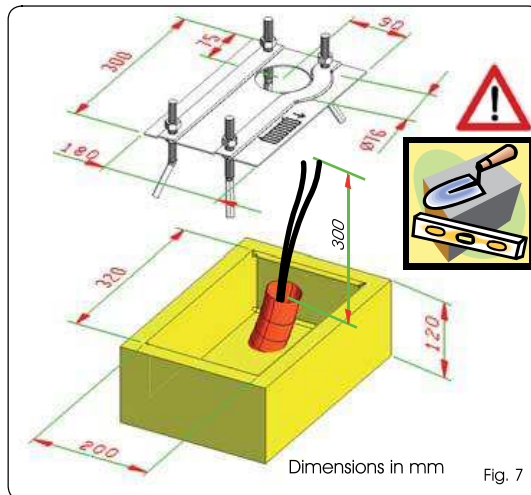

Fig. 7
3. Prepare a foundation plinth as shown in Fig. 7 and wall in the foundation plate, supplying one or more sheaths for routing electric cables through the hole in the foundation plate.